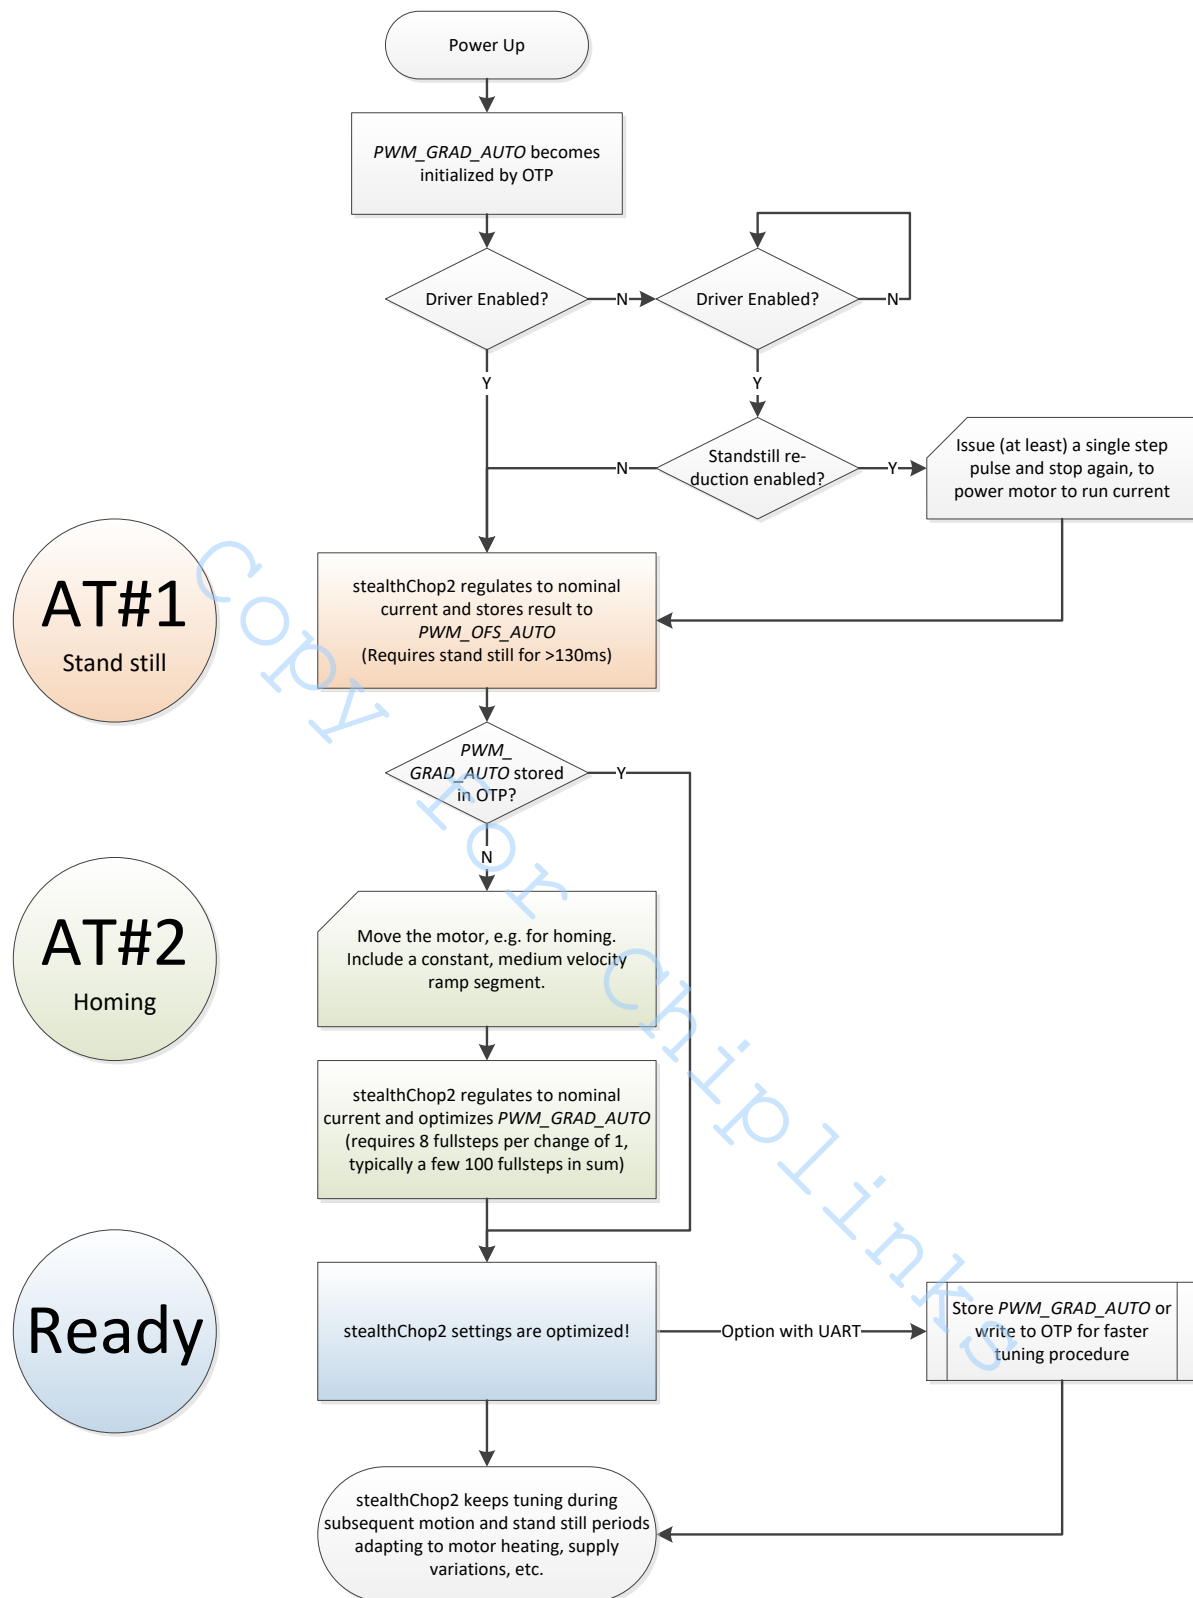

Figure 6.2 StealthChop2 automatic tuning procedure
StealthChop2 integrates an automatic tuning procedure (AT), which adapts the most important operating parameters to the motor automatically. This way, StealthChop2 allows high motor dynamics and supports powering down the motor to very low currents. Just two steps have to be respected by the motion controller for best results: Start with the motor in standstill, but powered with nominal run current (AT#1). Move the motor at a medium velocity, e.g. as part of a homing procedure (AT#2). Figure 6.2 shows the tuning procedure.